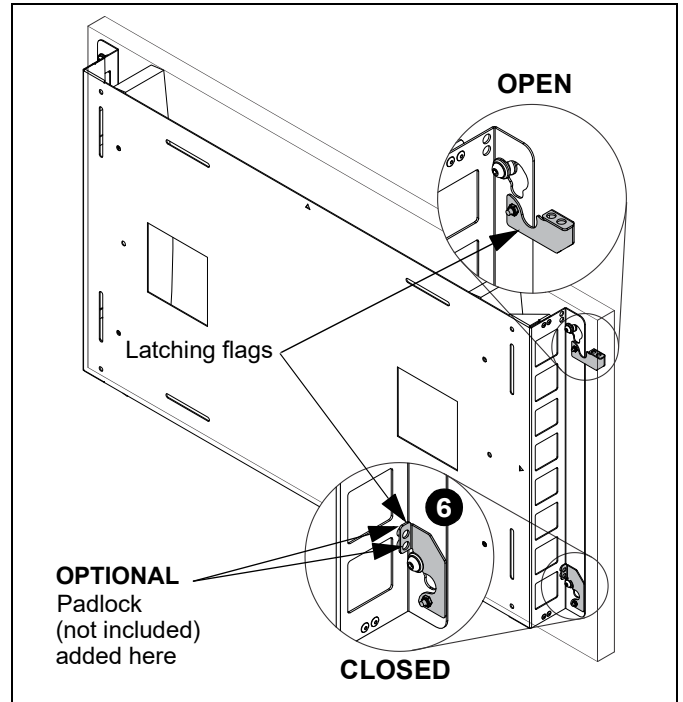

Figure 6
6. Move latching flags to **CLOSED** position. (See Figure 6)
7. **OPTIONAL:** Lock latching flags in place, if desired. (See Figure 6)